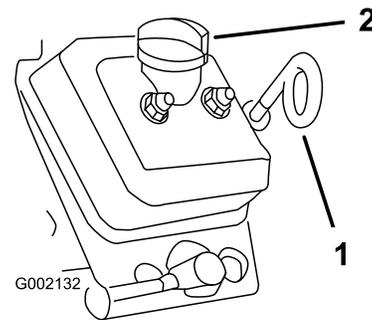

Figure 20
3. Use a rag to clean around the oil dipstick and fill cap (Figure 20) so that dirt cannot fall into the dipstick tube or oil-filler neck and damage the engine.
4. Remove the oil dipstick and wipe the end clean (Figure 20).
5. Slide the oil dipstick into the dipstick tube fully seating it (Figure 20).
8. Install the filler cap (Figure 20).
9. Install the oil dipstick and firmly seat it (Figure 20).